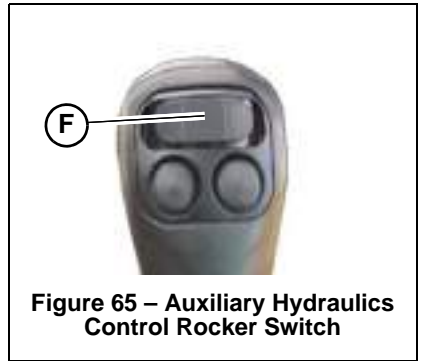

Figure 65 – Auxiliary Hydraulics Control Rocker Switch
2. Shut off the engine. With the ignition on, but the engine off, move the auxiliary hydraulics control rocker switch (F, Figure 65) on the right T-bar, joystick or hand control back and forth to relieve pressure in the auxiliary hydraulics circuit.